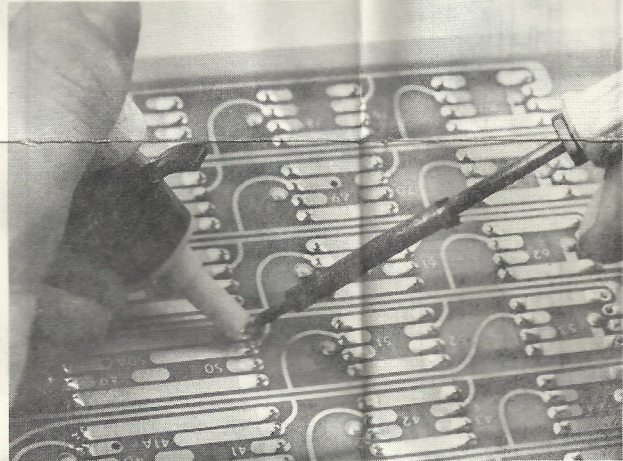

Figure 2
4. Refer to figure 2. Unsolder and remove the black plastic lead frame package from the termination board. When unsoldering the terminals, use a solder sucker to remove all solder from the pin holes in the printed circuit board.